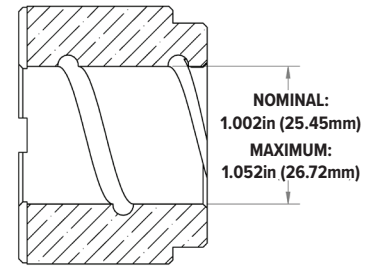

Fig 16A
1. Inspect the bushings (item 4A). The silicon carbide parts will not wear under normal operation. Polishing on a silicon carbide surface is a normal occurrence and usually does not require replacement. Check for signs of melting around the perimeter of the bushings. Make sure that the groove on the bushing ID is not plugged. Check for chips or cracks. Check bushings for wear. If the bushings appear worn, follow the steps listed in the section "Replacing Wear Components, Impeller Bushings". See figure 16A.